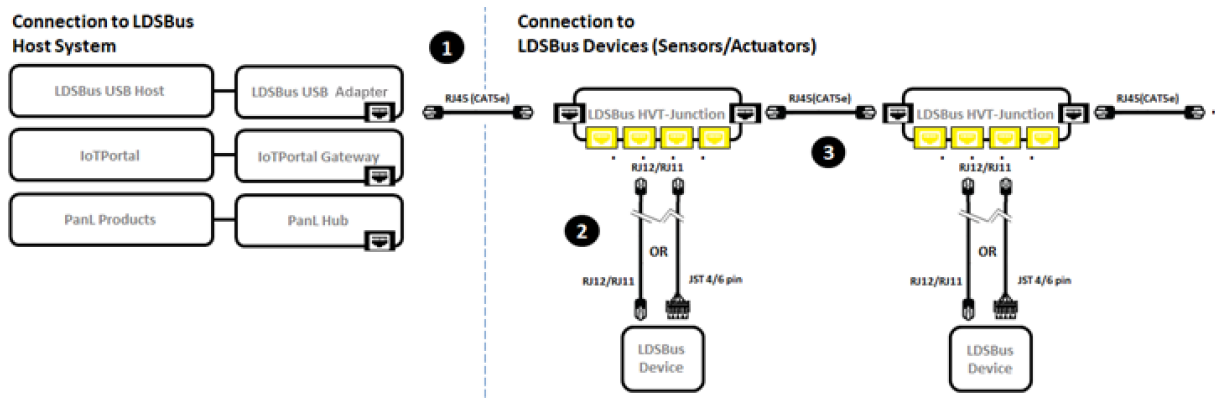

Figure 2 - LDSBus Isolated IO controller - Connection Diagram
Figure 2 illustrates the connection of the LDSBus Isolated IO Controller (LDSBus Device) to the LDSBus. Please visit <http://bit.ly/ldsbus-resources> to view the full device application, setup and installation guides.
2. Connect the configured LDSBus Isolated IO controller to the LDSBus HVT-Junction as shown in Figure 2.
3. If there is more than one LDSBus HVT-Junction, chain them together as shown in Figure 2.